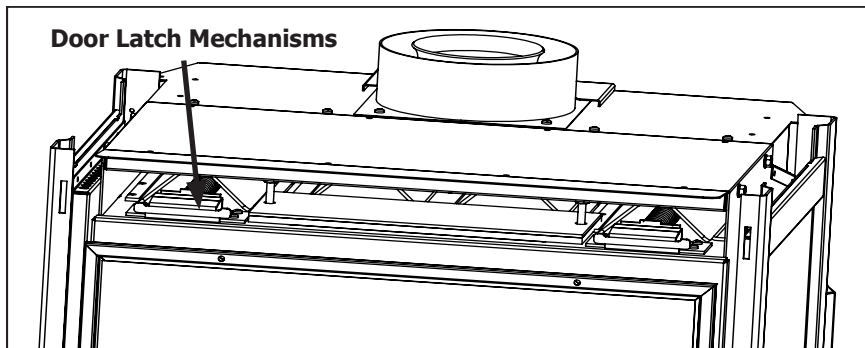
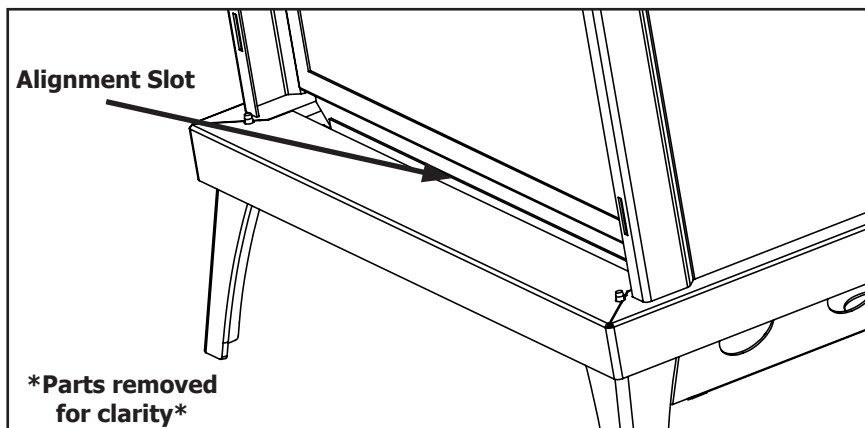

Figure 19. Top latches for glass door (cabinet front and top removed)
Figure 20. Bottom Alignment Slot for glass door.
In order to install the log set, and for regular cleaning, the glass door must be removed. The cabinet front must first be removed, as outlined in the section above, before accessing the door latches. There are two (2) door latch mechanisms on top the glass door as shown in Figure 19. Each latch can be pulled straight out and up by hand. When the top latches are unhooked, the door can be lifted up out of the alignment slot at the bottom of the firebox, shown in Figure 20.